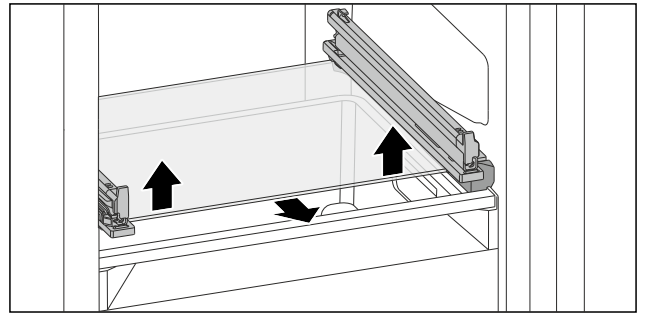

Fig. 133 Tilting drawer glass shelf
- ▶ Push glass shelf upwards from below on both sides. (see Fig. 133)